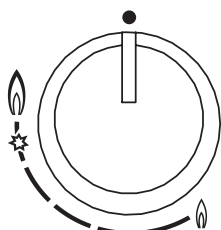

Fig.1
Turn the corresponding knob anticlockwise up to the maximum position (large flame, fig. 1) and press the knob.
If there is no power supply, it is possible to light the burners with matches, setting the knob to the start-up point (large flame, fig. 1).
- When the equipment is not working, always check that the knobs are in the closing position (see fig.1).
- If the flame should blow out accidentally, the safety valve will automatically stop the gas supply, after a few seconds. To restore operation, set the knob to the lighting point (large flame, fig. 1) and press.